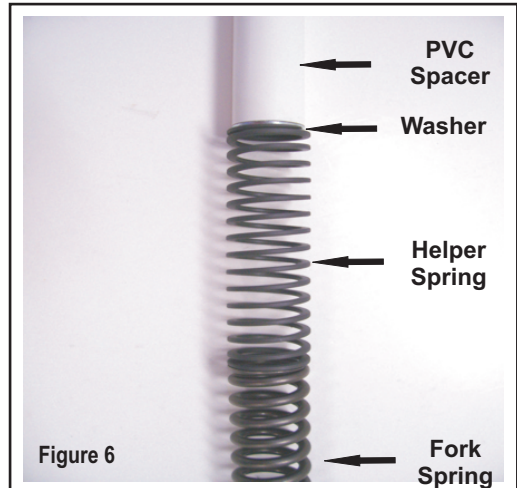

Figure 6
- With the front forks fully extended again, insert the Slammer Fork Spring into the fork tube, then insert the Slammer Helper Spring, Washer and PVC spacer. **Figure 6**